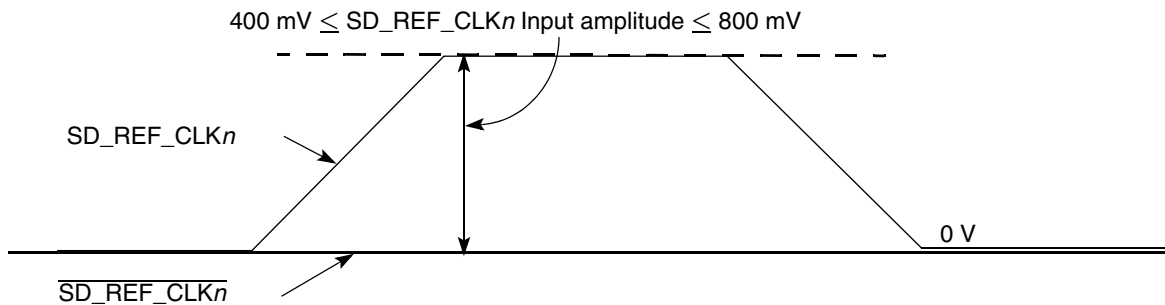

Figure 36. Single-Ended Reference Clock Input DC Requirements
- The $\overline{\text{SD_REF_CLK}}_n$ input average voltage must be between 200 and 400 mV. Figure 36 shows the SerDes reference clock input requirement for single-ended signaling mode.